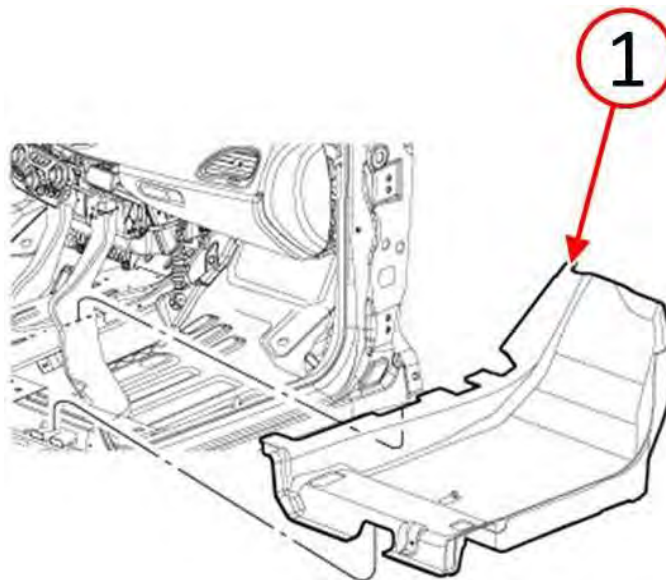

Fig. 14 Install Right Side Front Footwell Carpet
17. Install the carpet (1) to the right front footwell (Fig. 14).